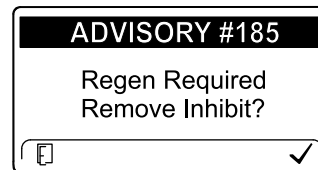

Figure 64
**Note:** If you set the InfoCenter to inhibit regeneration, the InfoCenter displays ADVISORY #185 (Figure 64) every 15 minutes while the engine requests a reset regeneration.